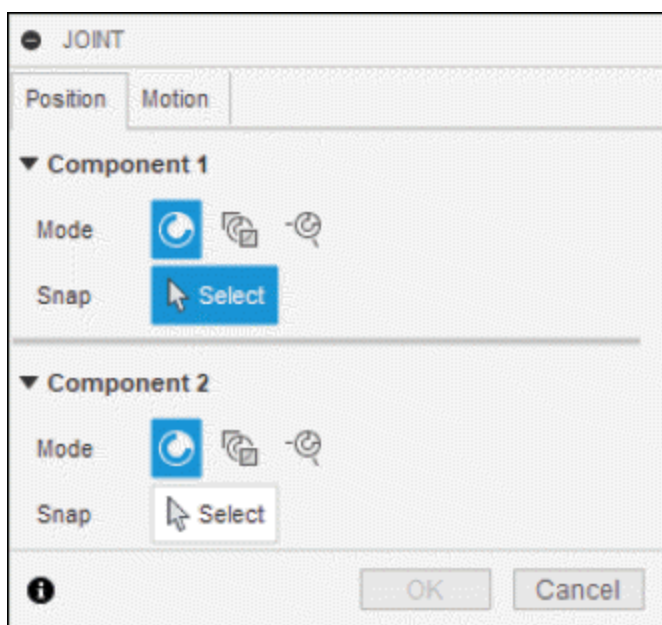

Figure-75. JOINT dialog box
- Click on **Joint** tool of **ASSEMBLE** drop-down from **Toolbar**. You can also activate the **Joint** tool by pressing **J** key from keyboard. The **JOINT** dialog box will be displayed; refer to Figure-75.